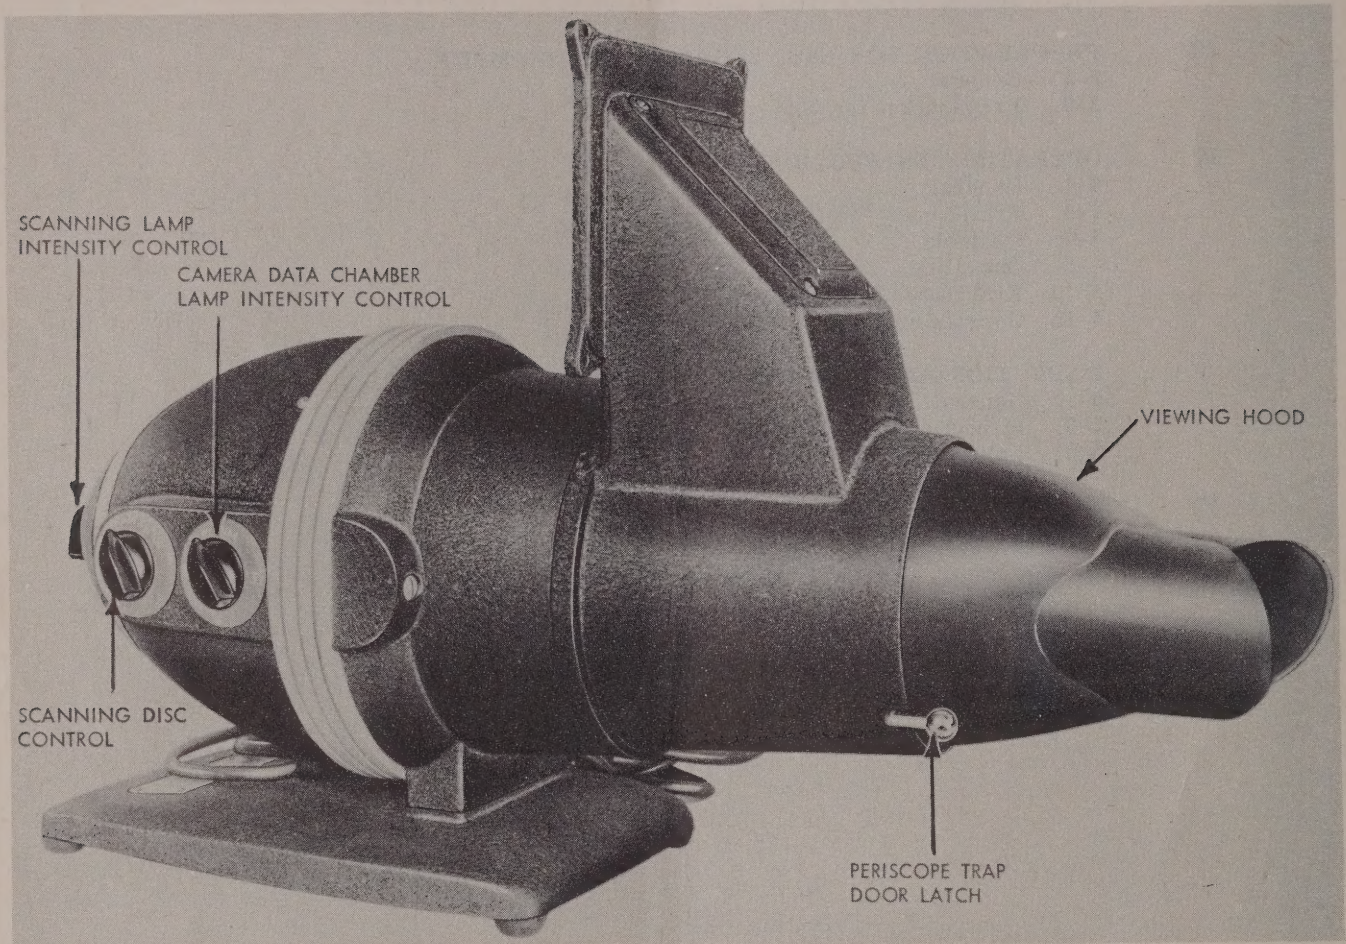

Figure 1-1. Overall View of Radar Recording Test Set LM18
- b. Install viewing hood to the test set and secure with the Dzus button (figure 1-1).
f. Turn the scanning disc control labeled "OFF-PPI-SECTOR" to the "OFF" position (figure 1-1).
b. Remove the cover from the camera data chamber, wind and set the clock, notate pertinent data on the data card, and zero both internal and external camera counters (see applicable technical orders). While the data chamber cover is still off, turn the scanning disc control to "PPI" position and determine that the data card illuminating lamps are operating. See figure 1-1.
d. Select the proper sweep trace intensity by adjusting the scanning lamp intensity control knob (see figure 1-1) at the rear of the test set. It is anticipated that films of a variety of age will be used, and the optimum intensity for any grade film can be best determined by experimentation.
4-4. CONTROLS. (See figure 1-1.)
4-9. The following is a step-by-step operating procedure for the LM18 Test Set. (See figure 1-1.)